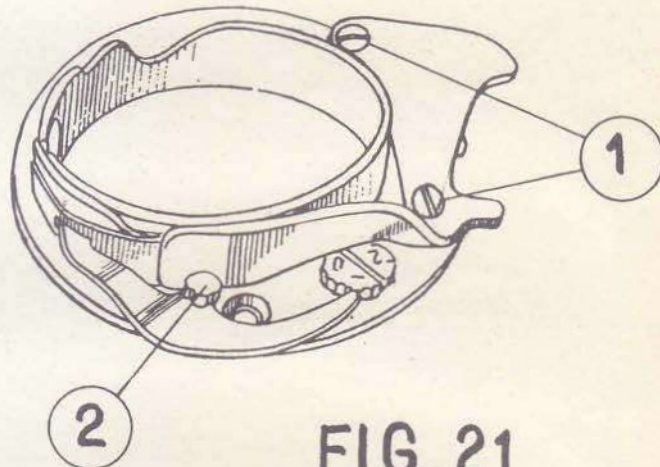

FIG. 21
18. ADJUSTMENT OF LOWER TENSION DEVICE (Fig. 21)